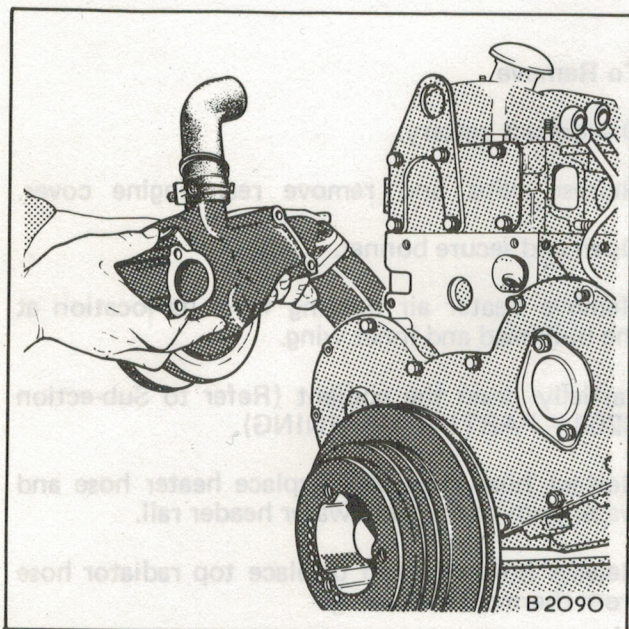

Fig. 2
4. Release hose connections and remove pump, Fig. 2.